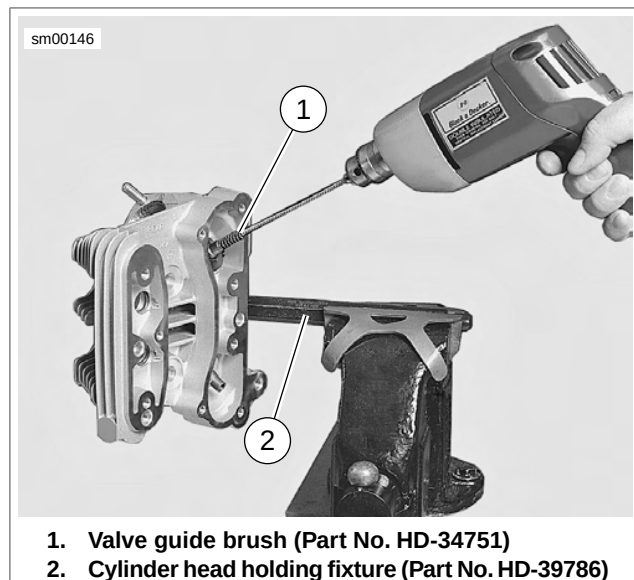

Figure 3-58. Cleaning Valve Guides
- See Figure 3-58. Thoroughly clean valve guide bores using VALVE GUIDE CLEANING BRUSH (Part No. HD-34751) and hot soapy water.